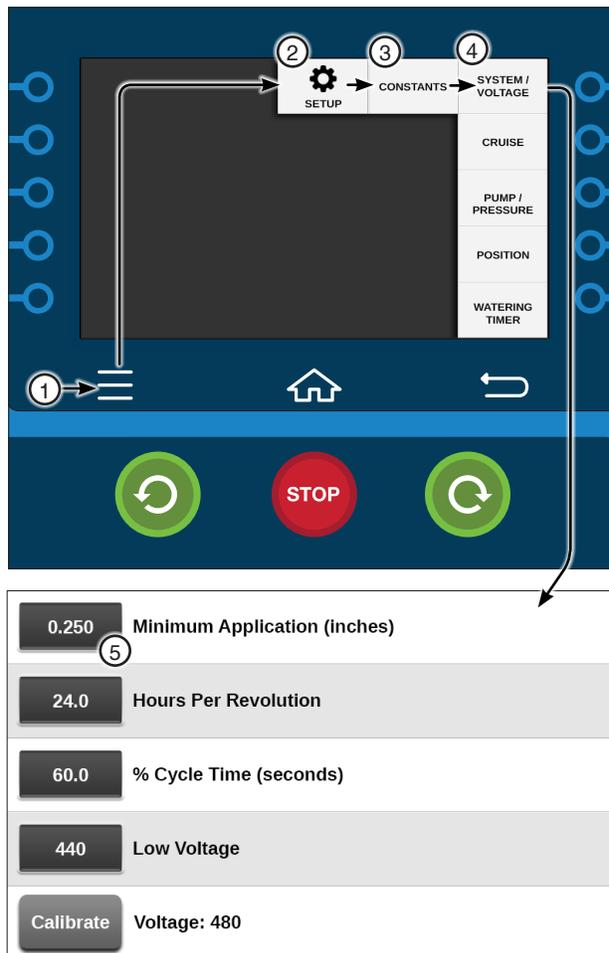

Figure 24-1 1. Menu 4. System / Voltage
The Constants menu is used to enter or adjust the constant parameters for the System, Voltage, Cruise Control, Pump, Pressure, Position and Watering Timer. Refer to Figure 24-1.
The System / Voltage screen is displayed in Figure 24-1.
Minimum Application is used to set the depth of water applied at a percentage timer setting of 100 percent. Refer to Figure 24-1.
To set the Minimum Application refer to Figure 24-1 and follow these steps:
1. Push **Menu**, **Setup**, **Constants** and **System / Voltage** to display the System / Voltage screen. Refer to Figure 24-1.